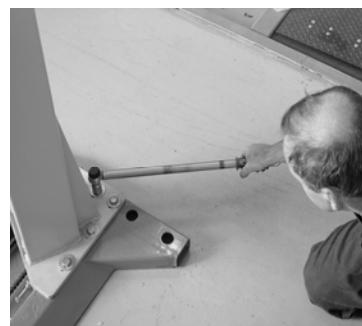

Fig.16
10. Tighten all bolts M16x40 with a torque of 200 Nm (Fig.16).